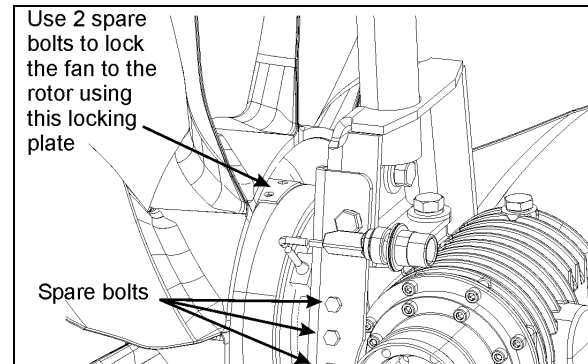

FIGURE 31: MECHANICAL LOCKING
5. Screw in and tighten the spare bolts (Fig. 31).